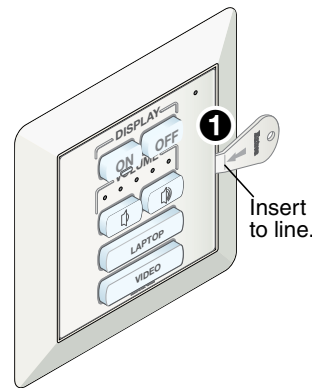

Figure 4. Release Bezel
Insert the Extron pry tool into the gap between one side of the bezel and the frame. Release the locking tab holding the bezel to the metal mounting bracket (figure 4, ①). There is a single catch in the middle of each side. If necessary, use the pry tool to release the second catch on the opposite side.